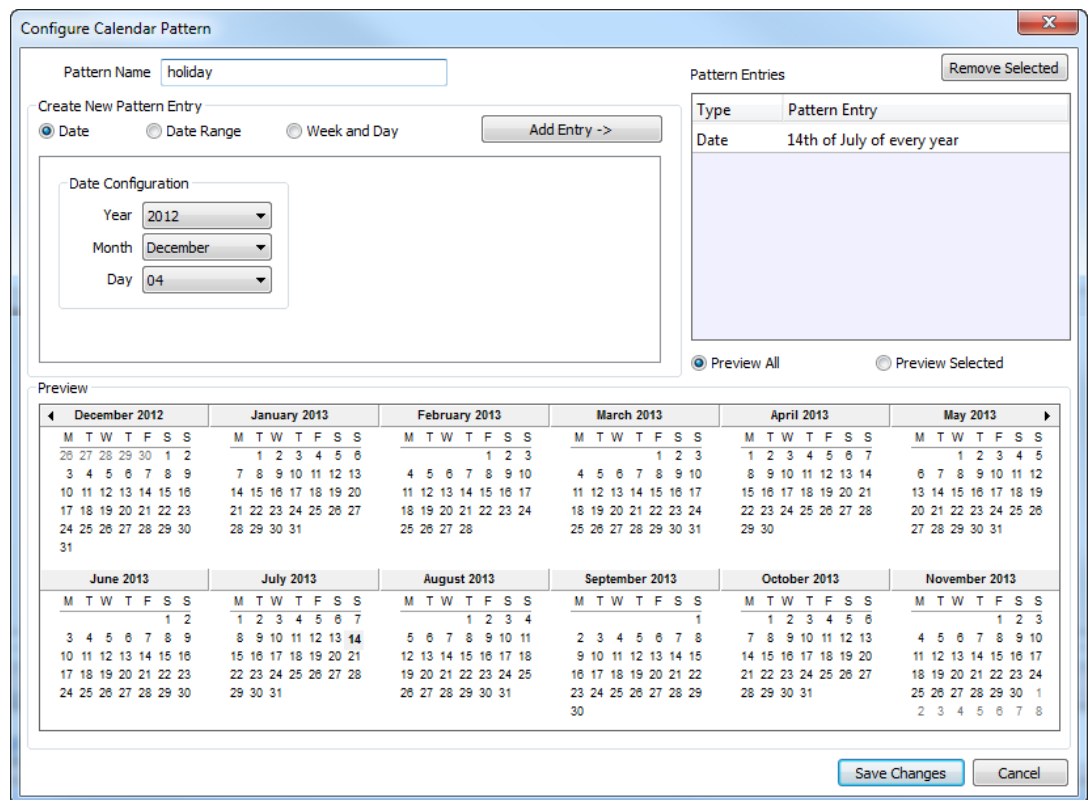

Figure 52: Configure Calendar Pattern Dialog.
4. The **Configure Pattern** dialog appears as shown in Figure 52. Add dates to the calendar pattern by entering a Date Configuration. Then click **Add Entry**. The date appears in the Pattern Entries list on the right-hand side.